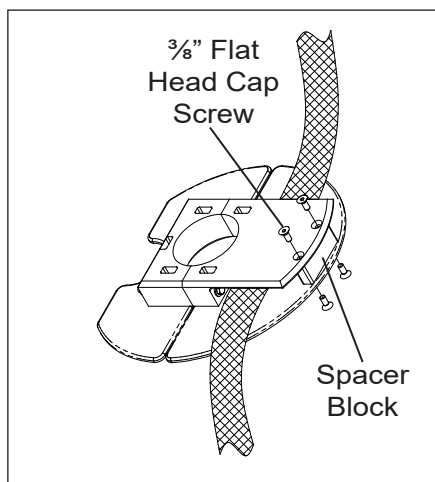

**Figure 4 – Hose Retainer**
6. Look into the end of the elbow to determine if the boom is equipped with a hose retainer assembly attached to the sprocket (refer to Figure 4).